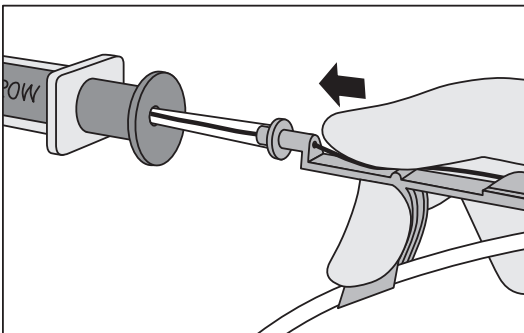

Figure 5
- Advance SWG into Arrow® Raulerson Syringe approximately 10 cm until it passes through syringe valves (refer to Figure 5) or into introducer needle.